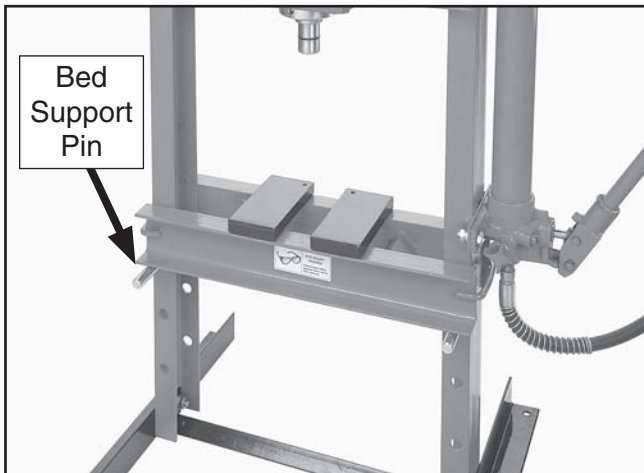

Figure 18. Typical arbor plate positioning.
21. Position the bed on the bed support pins, and place the arbor plates on the bed, as shown in **Figure 18**.